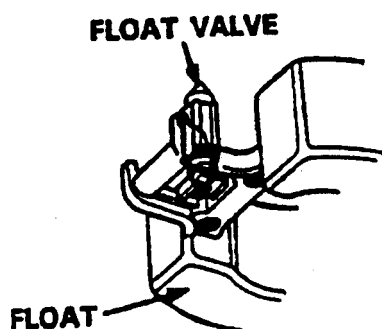

Fig. 14-9 Float and valve assembly
Locate the float (8) and float valve (7) and install the float pin (5). The components are shown assembled in Fig. 14-9.